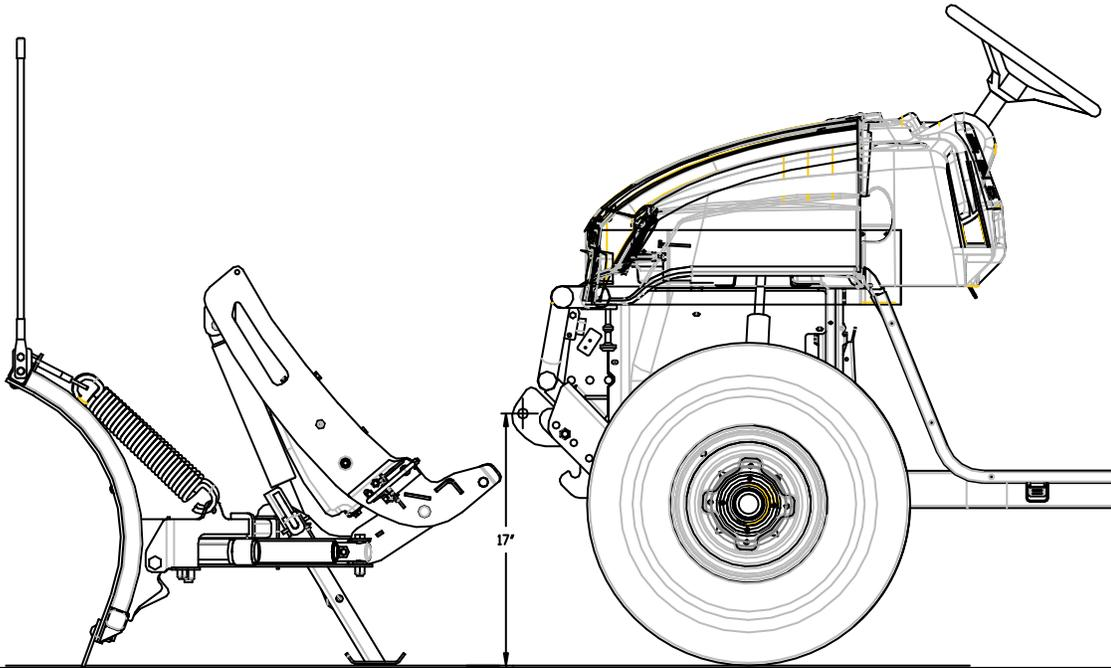

Figure 2
2. Using 3/8"-16 X 1" Hex Head Bolts (A) and 3/8" -16 Nylon Lock Nuts (B), mount Skid Plate (75) to bottom of Ranger frame. Tighten securely.
4. Using 3/8"-16 X 3-1/4" Hex Head Bolts (C), 3/8"-16 X 2-1/2" Hex Head Bolts (D), and 3/8"-16 Nylon Lock Nuts (B) mount Driver Side Pushbeam Support Plate (62B) to Ranger Frame. Leave finger tight.
6. Using 3/8"-16 X 1" Hex Head Bolts (A) and 3/8"-16 Nylon Lock Nuts (B), mount Pushbeam Assembly (62) between Skid Plate (75) tabs.
NOTE: The proper height adjustment for the Pushbeam (62) is approximately 20" from the ground to the center of Pushbeam (62) pin-receiving hole (See Figure 2) for Lift & Carry System. Use 16" for Straight Blade Plow System.
7. Using 1/2"-13 X 1-3/4" Carriage Bolts (E) and 1/2"-13 Nylon Lock Nuts (F) secure Pushbeam Assembly (62) to Bumper and Pushbeam Support Plates (62A & 62B).